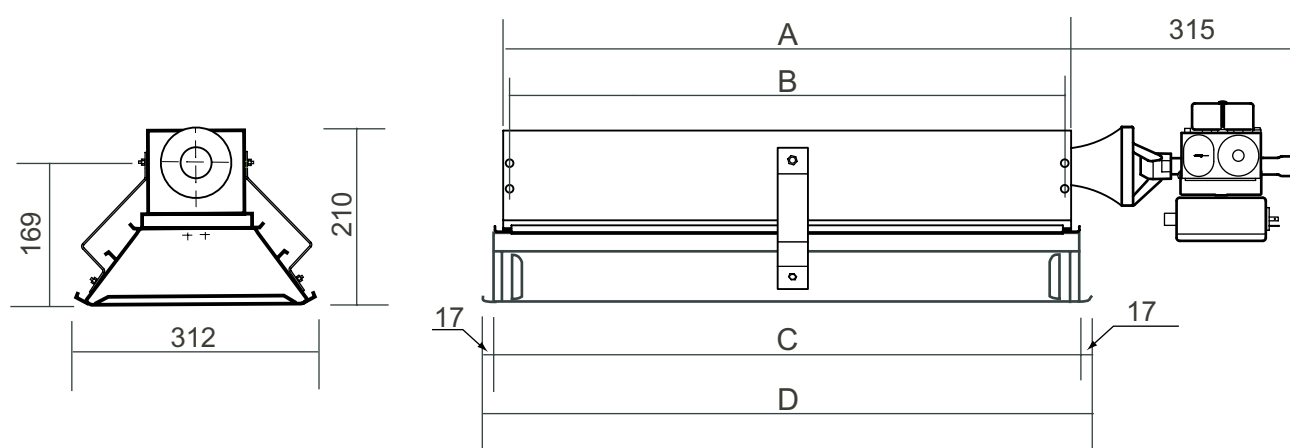

Fig. 7: Dimensions of the heater
- in upright position (see Fig. 7, page 15)